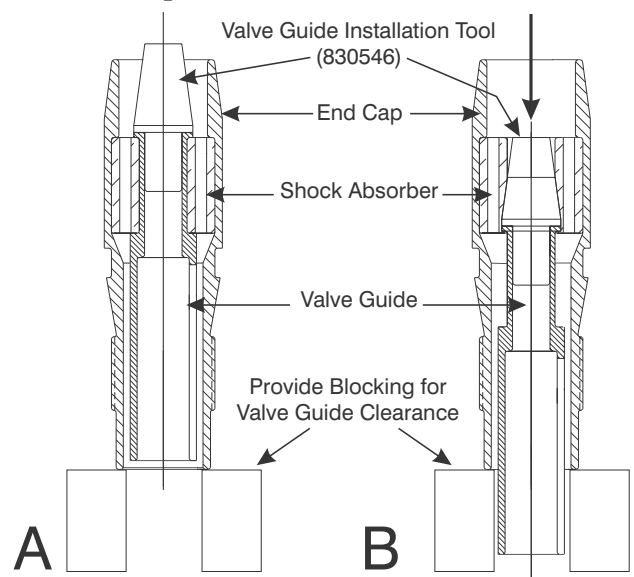

Figure 8-23. Press Valve Guide from Shock Absorber.
2. Insert the Valve Guide Installation Tool 830546 into the Valve Guide as shown in Figure 8-23-A.
3. Press the Valve Guide from the Shock Absorber as shown in Figure 8-23-B.